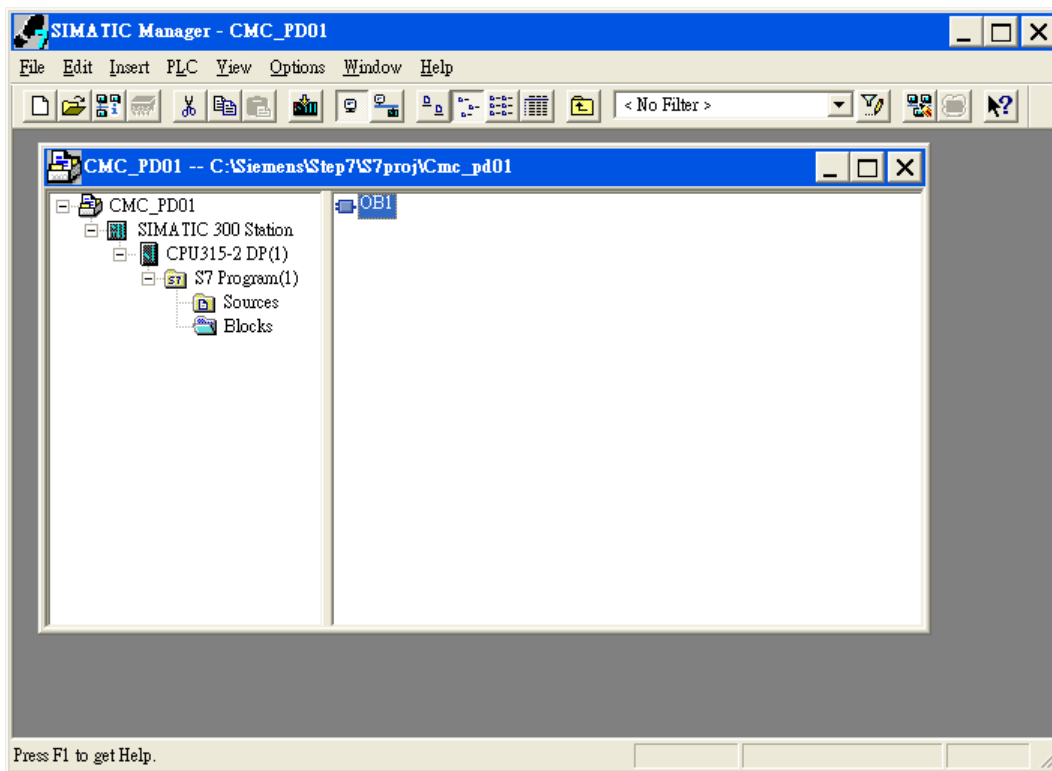

Figure 7-8
7. A new window will appear after the project is created. See Figure 7-8.